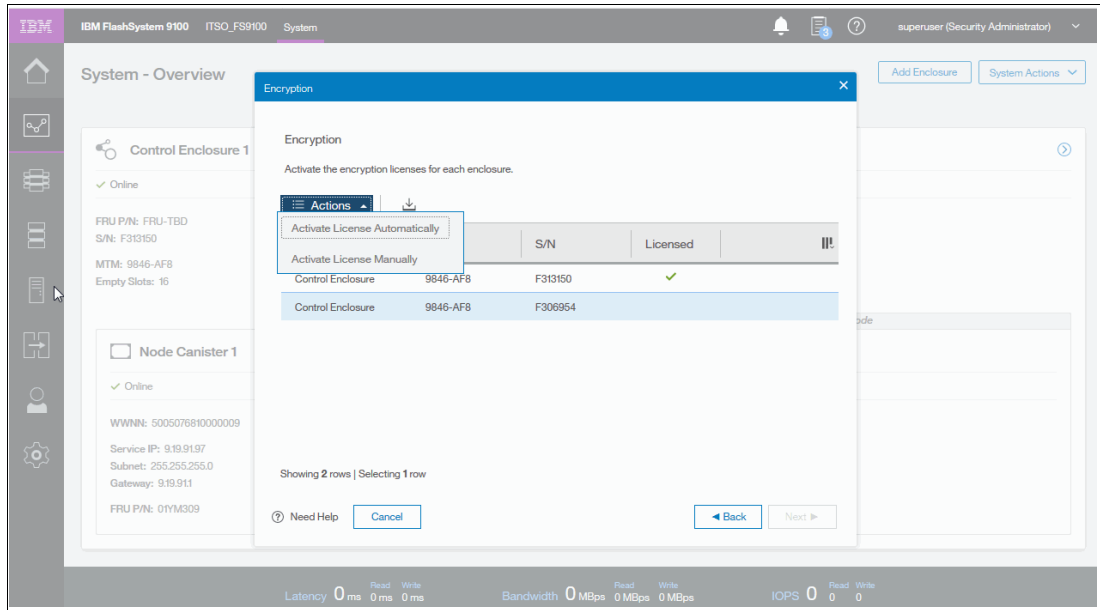

Figure 5-37 Select node for Encryption license enablement
3. Select the new control enclosure to **Activate License** Automatically or Manually, as shown in Figure 5-37.